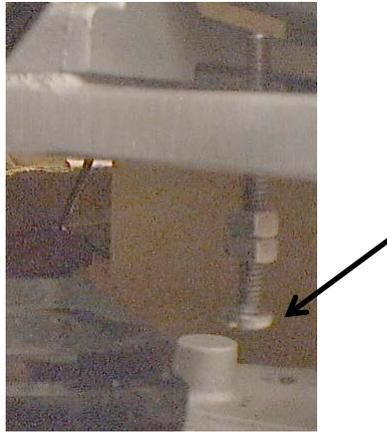

Figure A-6: Shipping Bolt
9. Raise the shipping bolt to support the gauge flexures to prevent shock damage to the load cell during gauge movement, when installing the gauge bucket and while loading calibration weights into the gauge bucket. See Figure A-6.